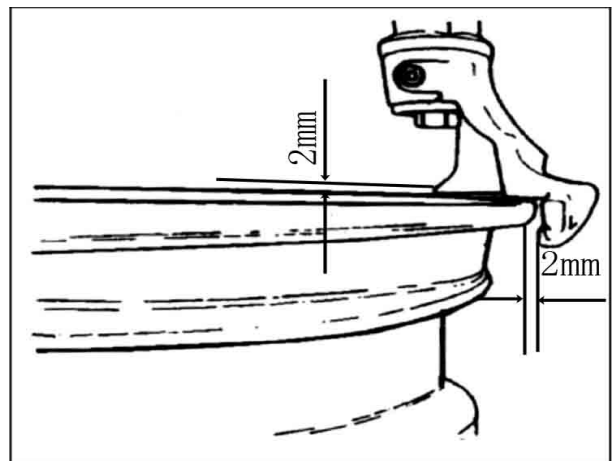

FIG 19
4.1.3 Position the hexangular shaft (FIG 2-3) to the working position to make the demount tool close to the rim of the wheel. And use the hand wheel (FIG 7-2) to push against the rocker arm and then use the lock handle( FIG 2-12) to lock. The demount tool will automatically move a little of gap (FIG19).